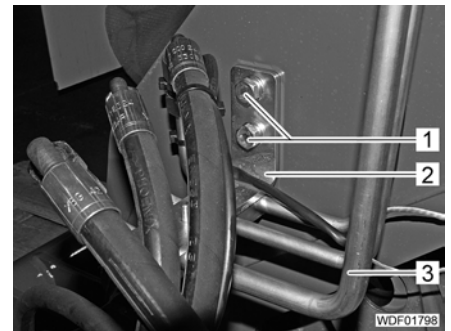

Fig. 512 Cable holder
- Unscrew bolts (Fig. 512,1) and remove holder (Fig. 512,2) with lines (Fig. 512,3).